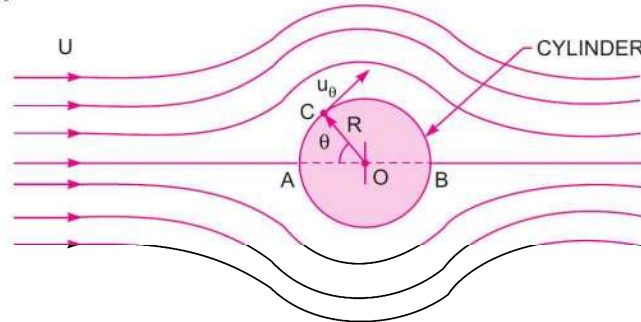
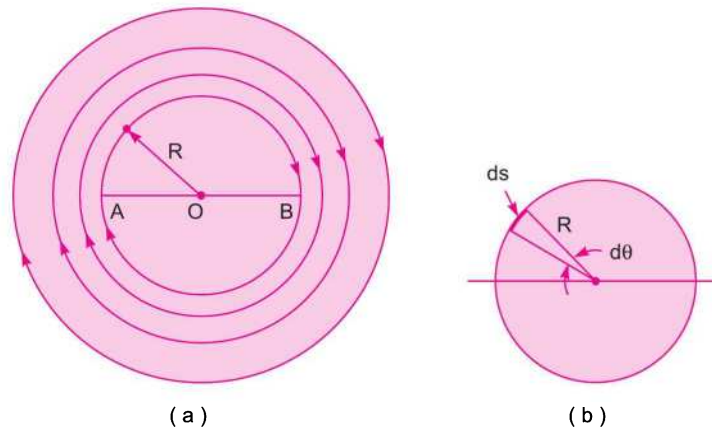
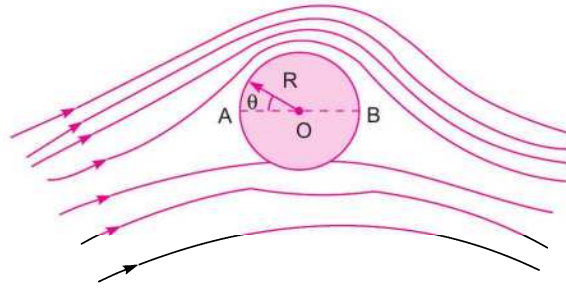

Fig. 14.9 Flow of ideal fluid over stationary cylinder.
Fig. 14.11 Stream-lines for free vortex.
Fig. 14.12 Flow pattern over a rotating cylinder.
**14.7.1 Flow of Ideal Fluid over Stationary Cylinder.** Consider the flow of an ideal fluid over a cylinder, which is stationary as shown in Fig. 14.9.
The flow-pattern for a free-vortex flow consists of streamlines which are series of concentric circles as shown in Fig. 14.11 (a).
In case of free-vortex flow, the stream velocity at any point on a circle of radius  $R$  is equal to the tangential velocity at that point. This means that angle between the stream-lines and tangent on the stream is zero. Also from Fig. 14.11 (b), the length of the element 'ds' is given as  $ds = R d\theta$
**Flow over Cylinder due to Constant Circulation.** The flow pattern over a cylinder to which a constant circulation ( $\Gamma$ ) is imparted is obtained by combining the flow patterns shown in Figs. 14.9 and Fig. 14.11 (a). The resultant flow pattern is shown in Fig. 14.12. The velocity at any point on the surface of the cylinder is obtained by adding equations (14.12) and (14.14) as
**14.7.3 Expression for Lift Force Acting on Rotating Cylinder.** Let a cylinder is rotating in a uniform flow field. The resultant flow pattern will be as shown in Fig. 14.12. Consider a small length of the element on the surface of the cylinder.
**14.7.4 Drag Force Acting on a Rotating Cylinder.** The resultant flow pattern for a rotating cylinder in a uniform flow field is shown in Fig. 14.12. The resultant flow pattern is symmetrical about the vertical axis of the cylinder. Hence the velocity distribution and also pressure distribution is symmetrical about the vertical axis and as such there will be no drag on the cylinder.
Stagnation points are those points on the surface of the cylinder, where velocity is zero. For a rotating cylinder as shown in Fig. 14.12, the resultant velocity is given by equation (14.15) as